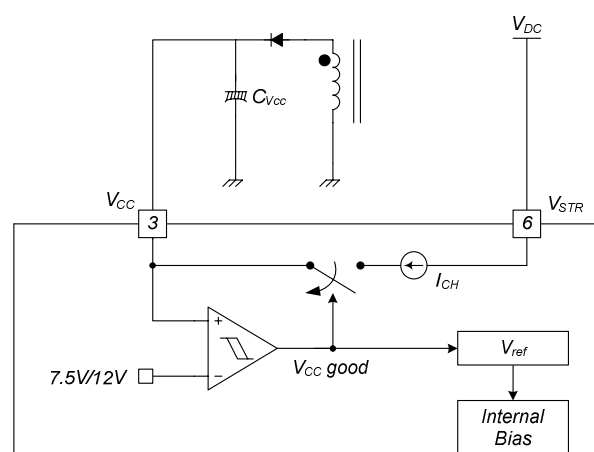

Figure 17. Startup Block
1. Startup: At startup, an internal high-voltage current source supplies the internal bias and charges the external capacitor (C_{VCC}) connected to the V_{CC} pin, as illustrated in Figure 17. When V_{CC} reaches 12V, the FSGM0465RB begins switching and the internal high-voltage current source is disabled. The FSGM0465RB continues normal switching operation and the power is supplied from the auxiliary transformer winding unless V_{CC} goes below the stop voltage of 7.5V.